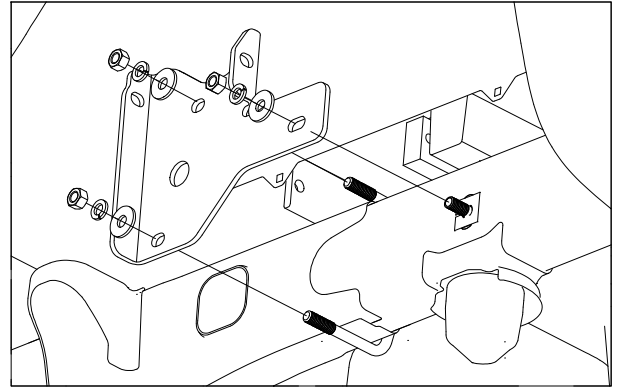
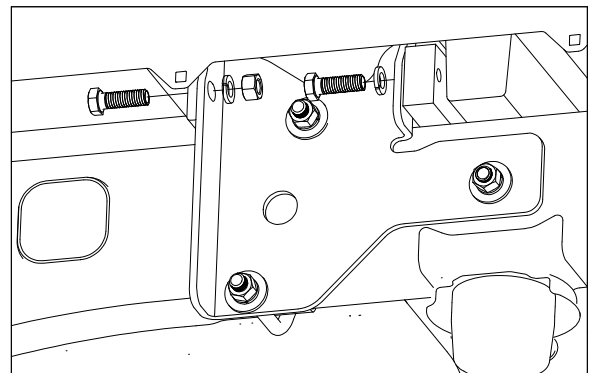

Figure C4: View looking is driver side wheel well.
Figure C5.
- 3. Install the side plates.** Pass the side plates over the U-bolts and stud placed in the frame. Secure each side plate with flat washers, lock washers, and nuts, see Figure C4. Attach the front flange of the side plate to the front angle cross member by placing a 1/2" X 1-1/2" bolt through the front cross member, then secure to the side plate with a lock washer and nut. Next, attach the side plate to the rear bar by placing a 1/2" X 1-1/2" bolt with a lock washer through the side plate flange and threading it into the rear cross member, see Figure C5. Leave these bolted connections loose for the time being.